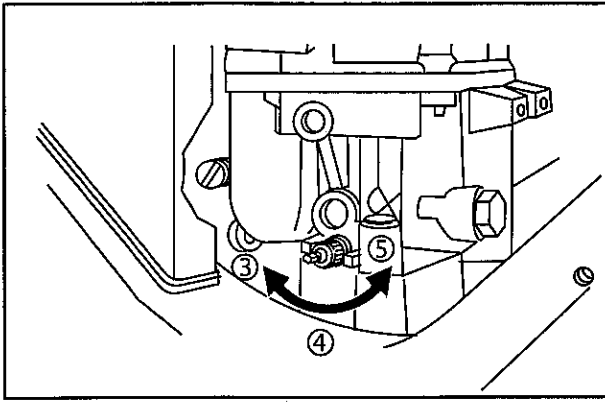

Fig. 16
4. Turn idle mixture screw slowly **CLOCKWISE** (3) until engine speed just starts to slow (LEAN mixture), Fig. 16.
5. Then turn idle mixture valve **COUNTERCLOCKWISE** (5) until engine speed just starts to slow (RICH mixture).
6. Turn valve to mid point (4) between RICH and LEAN.